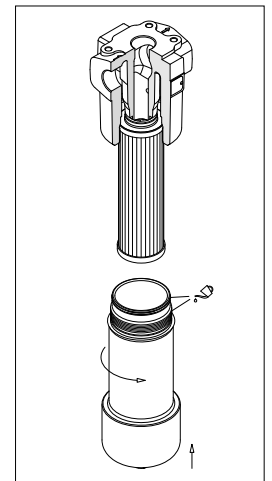

fig. 25
- (Fig. 25) Lubricate the thread and the O-ring of the bowl, then screw the bowl in referring to the tightening torque table in paragraph 3.